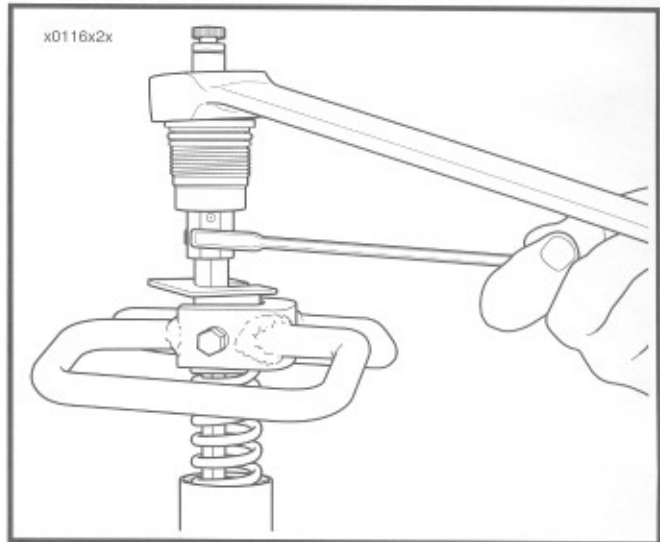

Figure 2-64.
5. See Figure 2-64. Hold the fork bolt and compression adjuster. Remove the fork bolt from the compression adjuster. Remove the spring adjuster plate from the fork bolt.